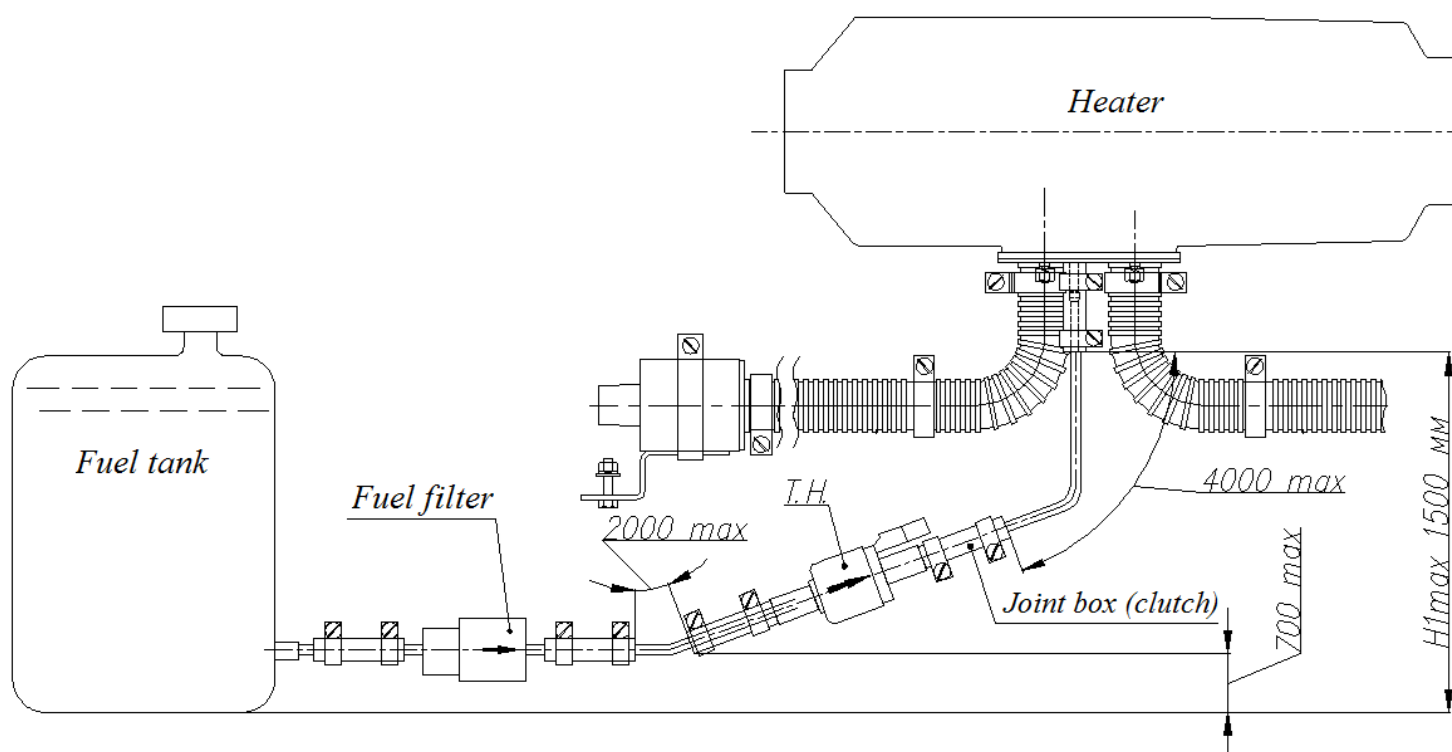
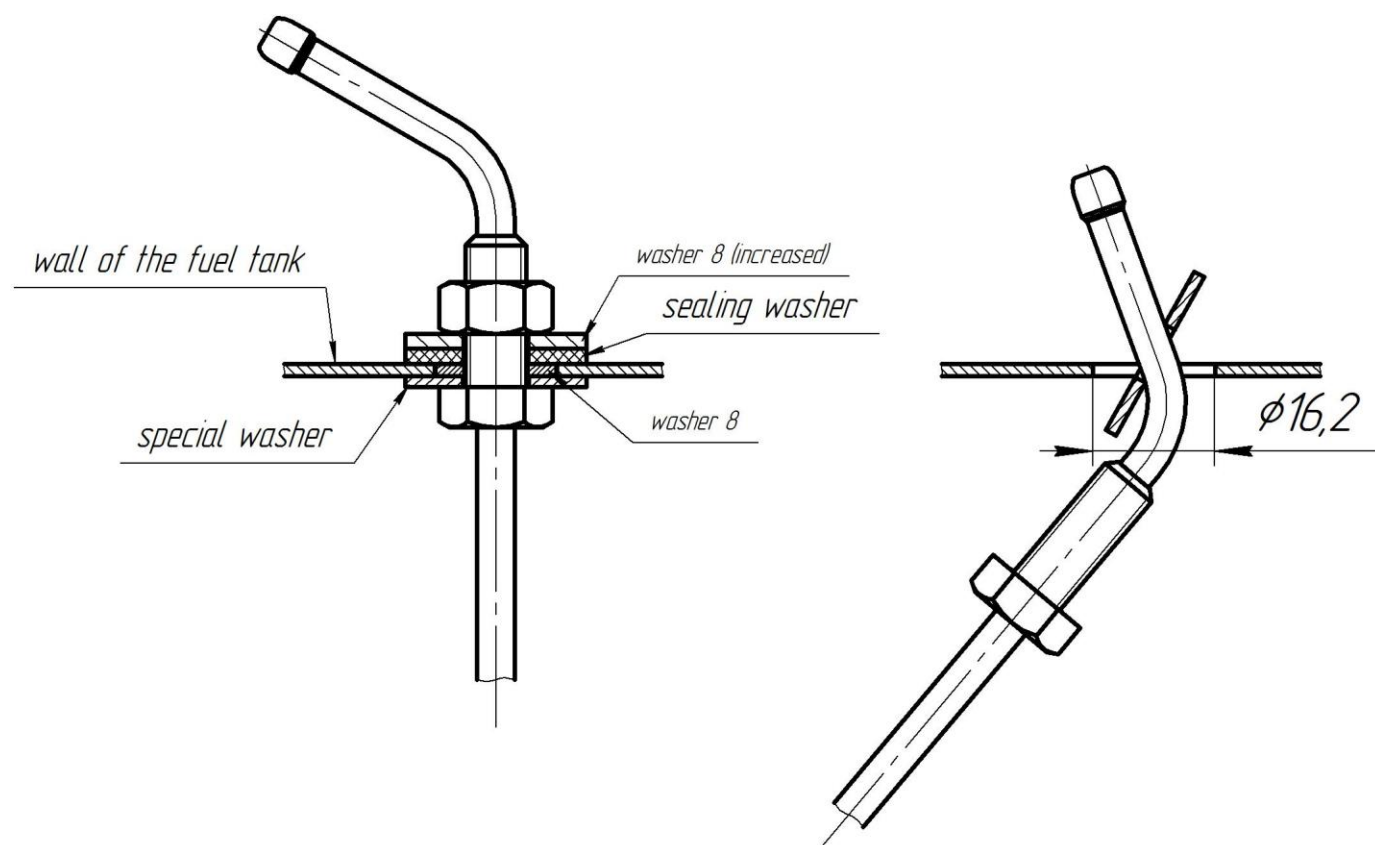
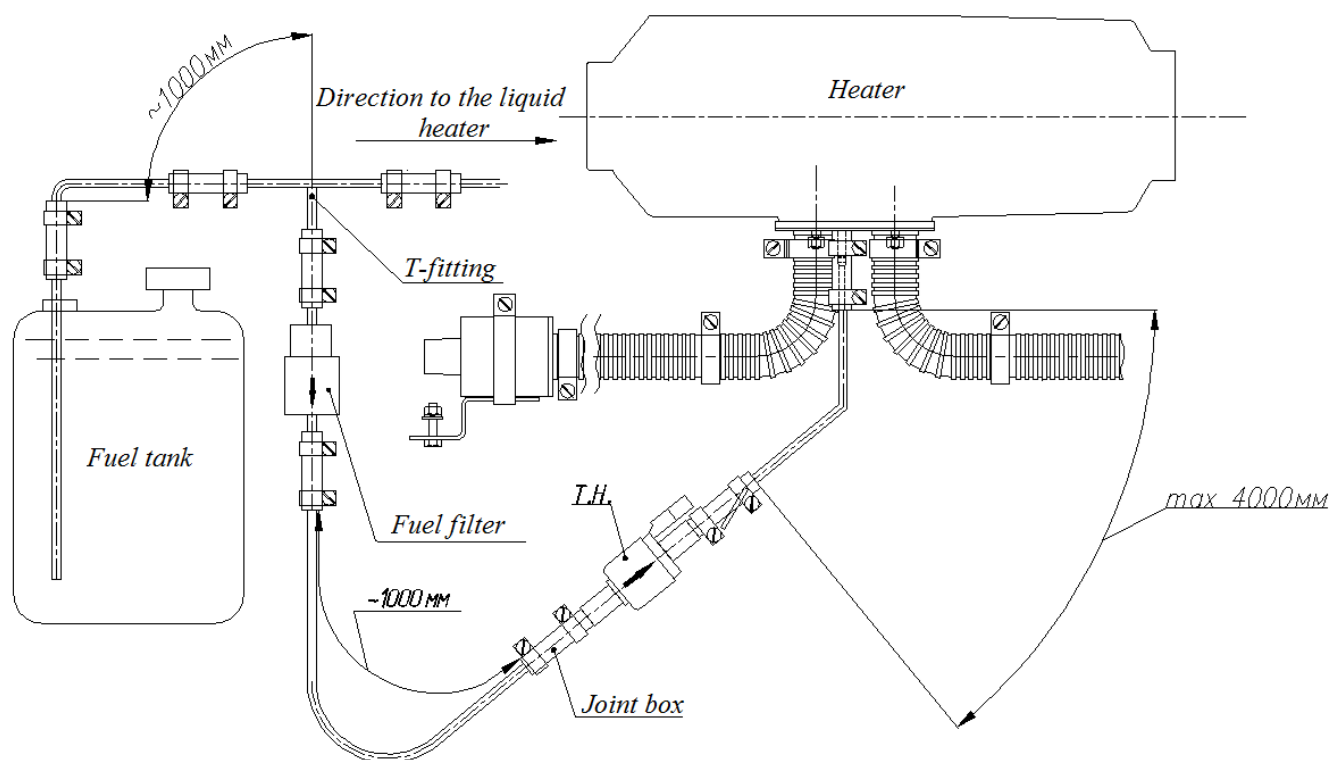

Fig.11 The diagram of the assembly of the fuel system of the heater with an individual fuel tank
Fig. 12 Fuel supply intake installation in a regular tank of the car
Fig.13 The diagram of assembly of the fuel system of the heater into the fuel system of the liquid heat booster
- the fuel tube of the heater should preferably be placed above the maximum fuel level in the fuel tank (see Fig. 11, Fig.13);
The relative positions of the fuel tank, fuel pump and heater are shown in Fig.11 and Fig.13. The installation diagram of the fuel intake is shown in Fig.12.